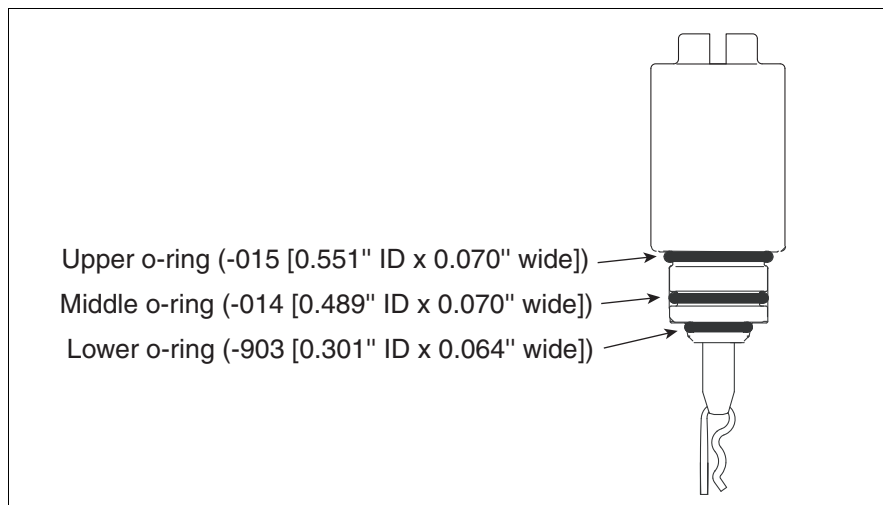

Figure 55. Hitch Pin In Position To Install Air Purge Screw
8. Lubricate the three o-rings on the new screw with petroleum jelly and install it with the hitch pin pushed on and hanging in the vertical position (see Figure 55).